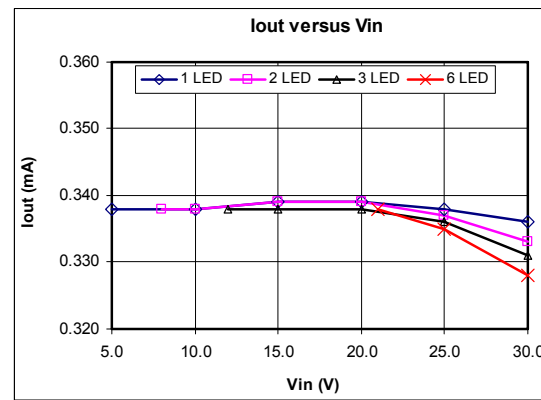

Fig. 5: Output Current vs Input Voltage
- i) Place the bypass capacitors C4 and C5 as close as possible to the XRP7603 IC. See figure 5 for details.